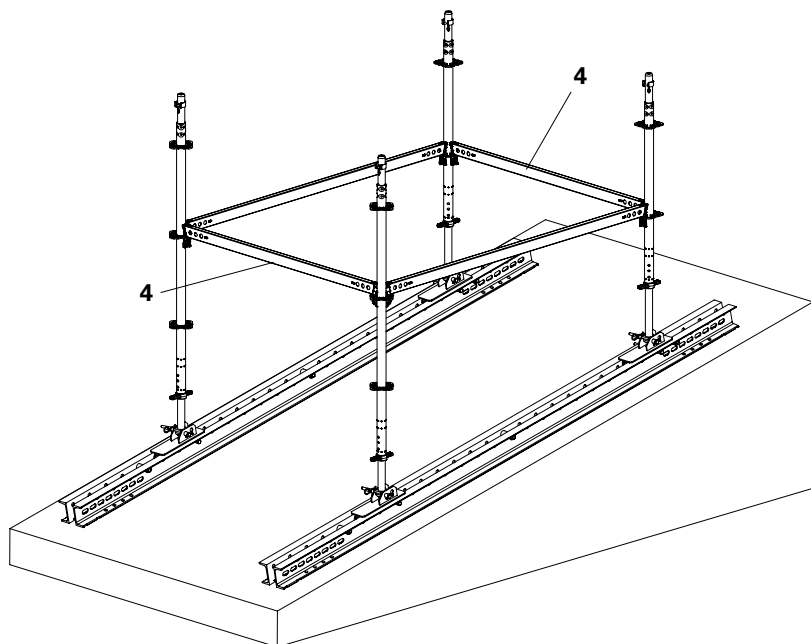

Fig. C2.04
3. Align the base level horizontally and hammer the wedges of the horizontal ledgers into place. (Fig. C2.04)